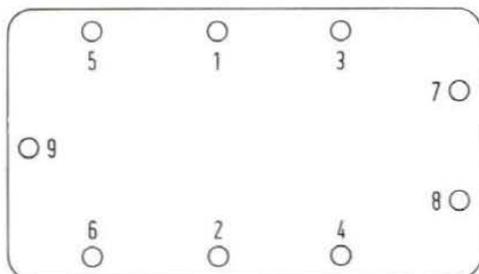

Fig. 589 - Tightening reference for cover retaining nuts.
- tighten the nine retaining nuts to  $13 \pm 1.08$  ft.lbs. ( $1.8 \pm 0.15$  kgm) according to tightening reference shown in fig. 589;